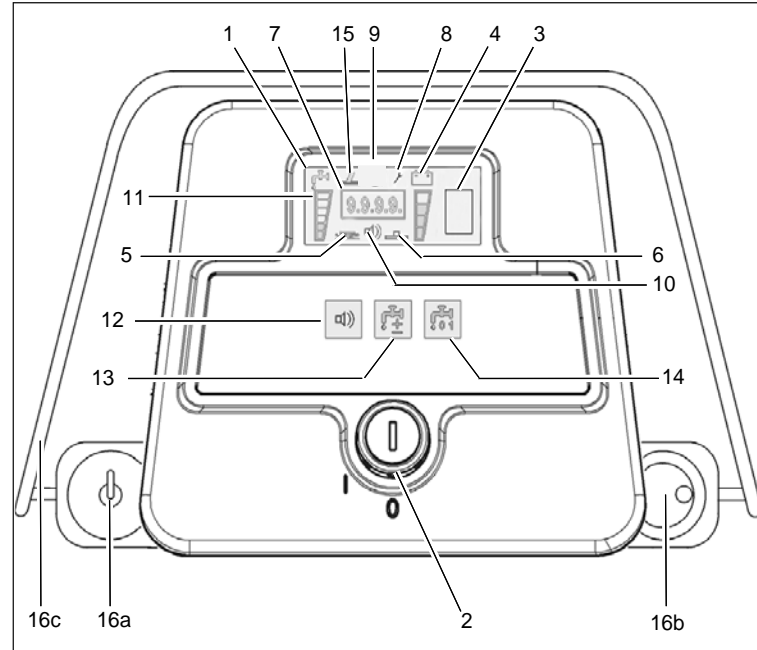

Fig.4
3. Switch on solution supply by means of tip-switch (Fig. 4/14).
4. Adjust solution amount by means of tip-switch(Fig. 4/13).
6. Use the speed control knob (Fig. 4/16b) to adjust the work speed. Use the direction switch (Fig. 4/16a) to select forward or reverse. Pull the bail handle (Fig. 4/16c) to start moving.
### Display (Fig. 4/1)
### Battery charge indication (Fig. 4/3)
### LDS indicator (Fig. 4/4)
### Symbol brush drive (Fig. 4/5)
### Symbol vacuum motor (Fig. 4/6)
### Hourmeter (Fig. 4/7)
### Service indicator (Fig. 4/8)
free (Fig. 4/9)
(Fig. 4/10)
**Solution flow symbol (Fig. 4/11)**
(Fig. 4/12)
**Solution flow tip-switch (Fig. 4/ 13)**
(Fig. 4/14)
(Fig. 4/15)
**Drive direction control with speed control knob/bail handle (Fig. 4/16)**